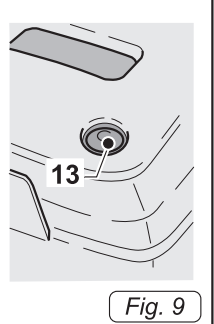

Fig. 9
- Press the switch (13 Fig.9). The appliance starts up.
- Press the switch (13 Fig.9) to switch off the appliance.